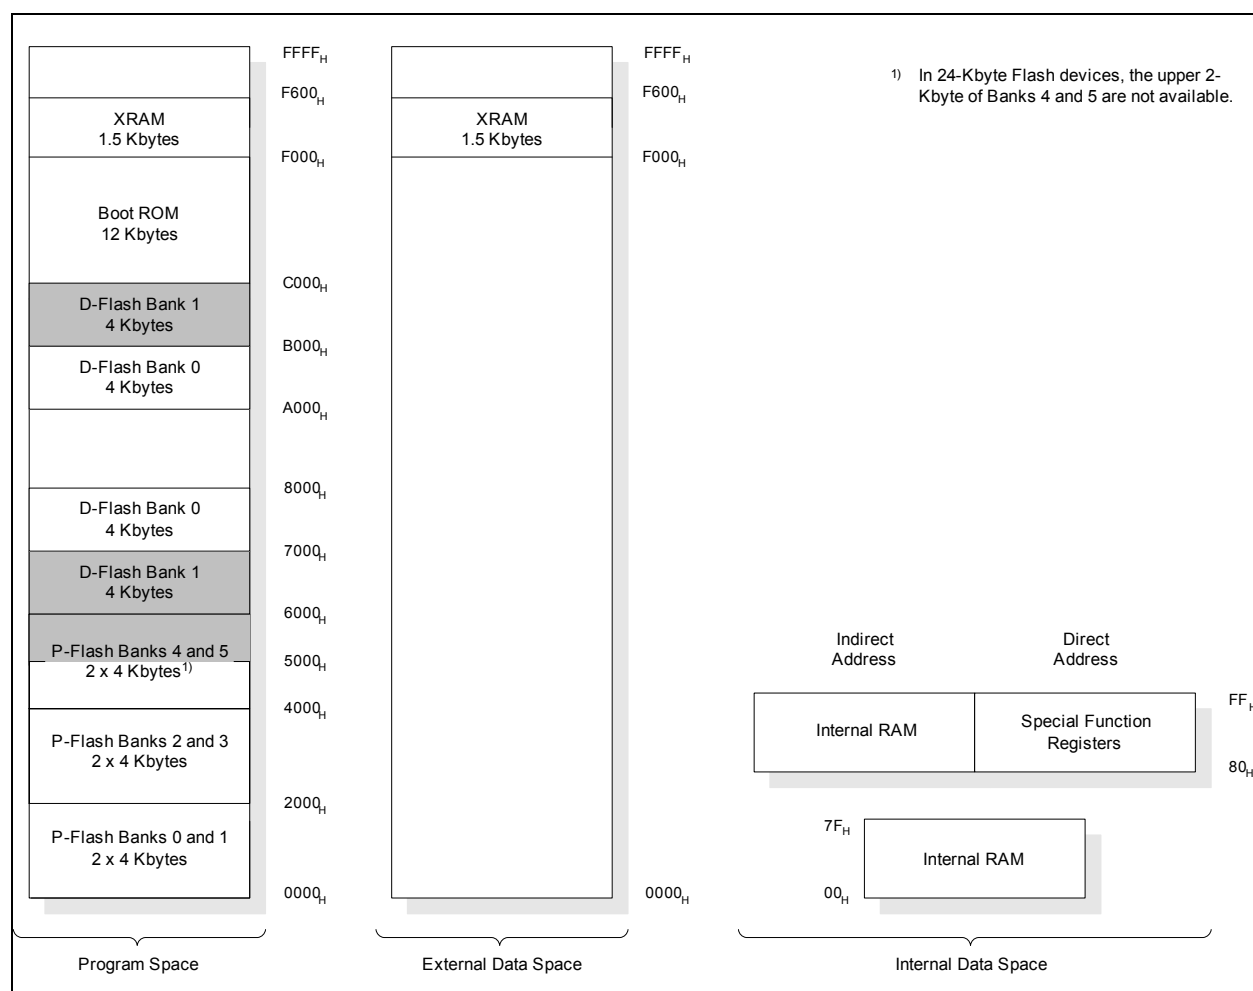

**Figure 7 Memory Map of XC886/888 Flash Device**
**Figure 7** illustrates the memory address spaces of the 32-Kbyte Flash devices. For the 24-Kbyte Flash devices, the shaded banks are not available.